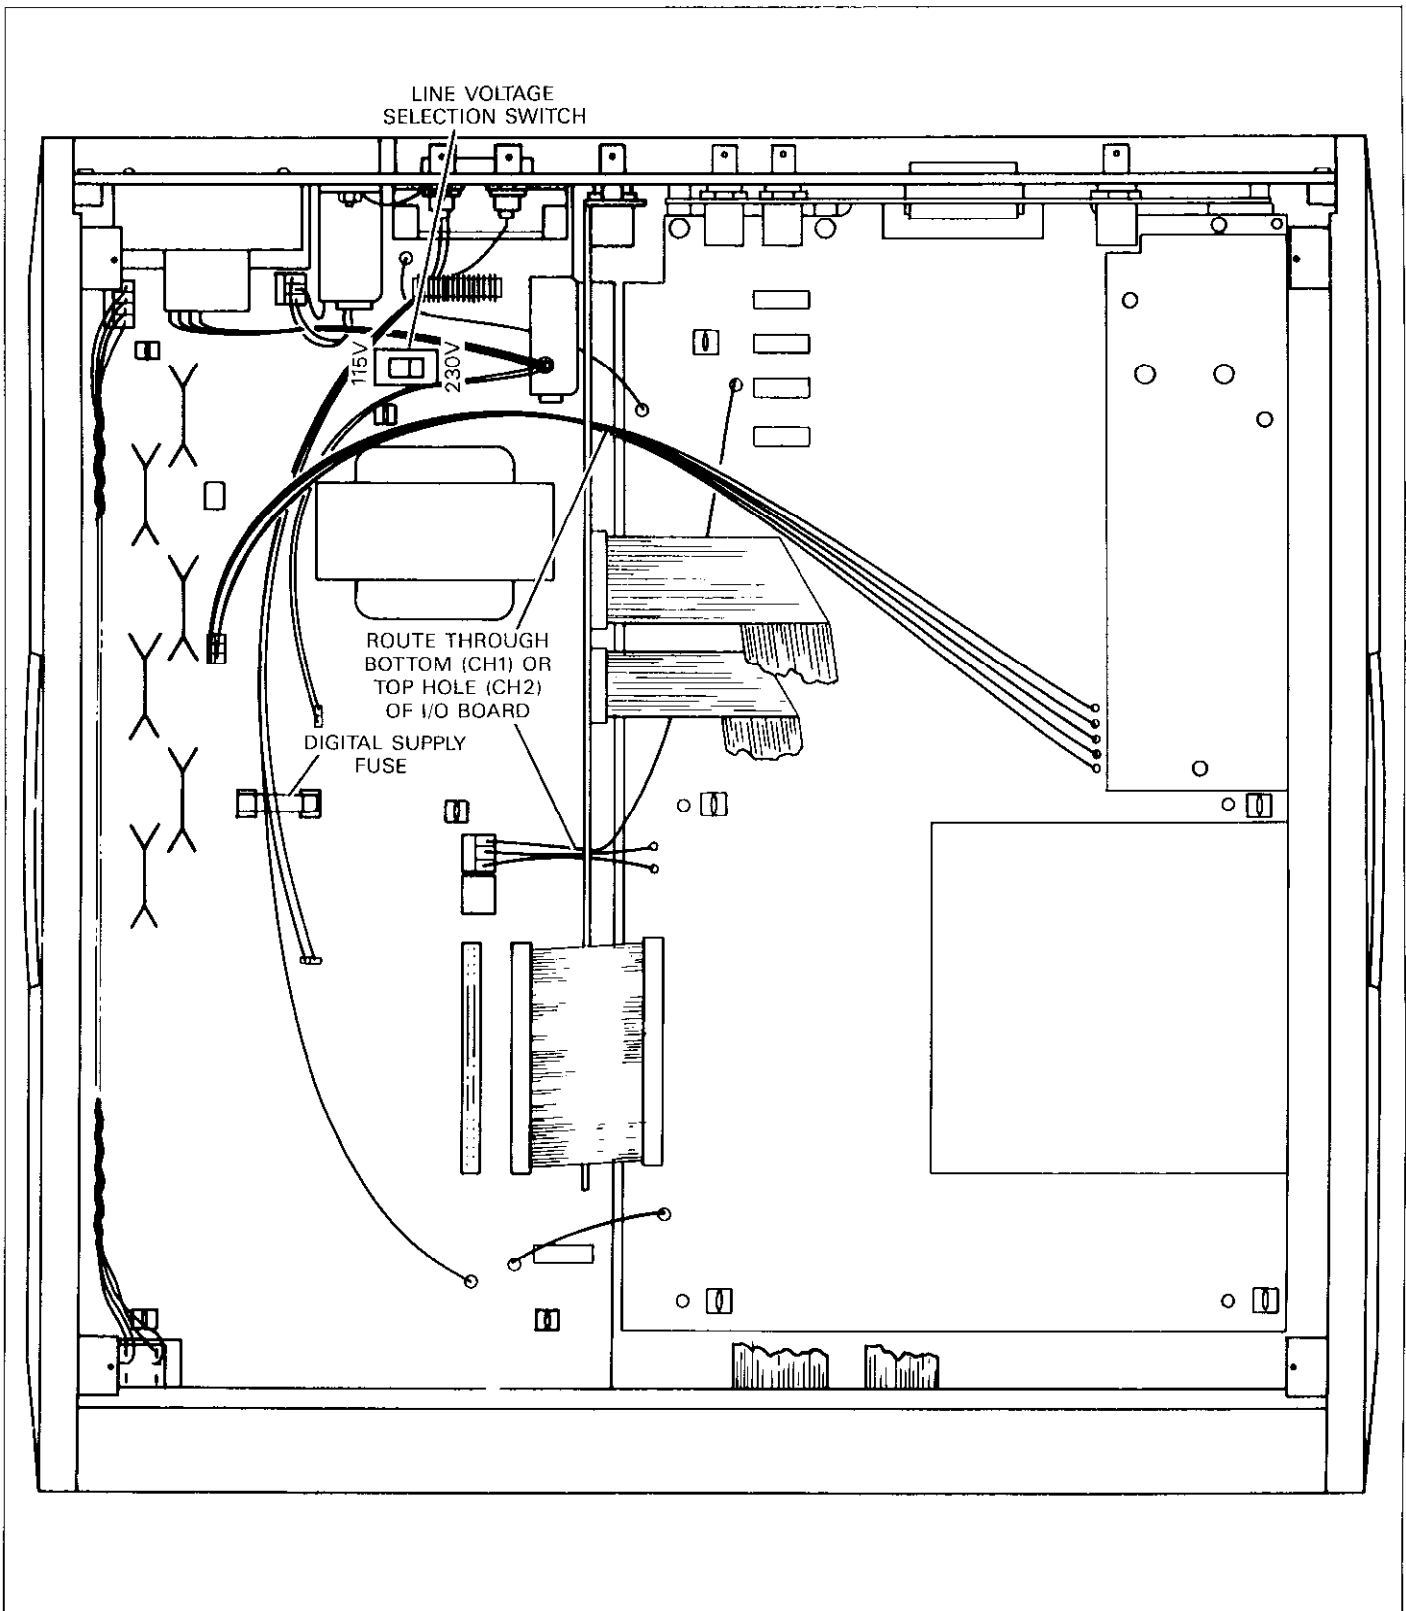

Figure 7-1. Line Voltage Switch and Digital Supply Fuse Locations
2. Locate the line voltage selection switch adjacent to the power transformer on the mother board (see Figure 7-1).
2. Remove the digital supply fuse from the fuse clips with a fuse puller or similar tool. Figure 7-1 shows fuse location.